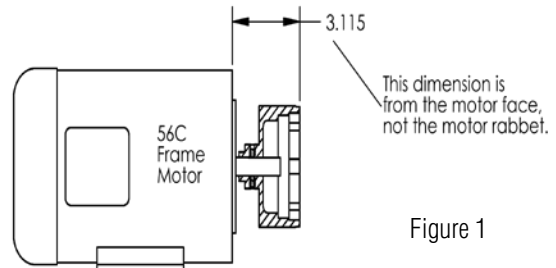

Figure 1
2. Slide drive magnet assembly (item 6) onto the motor shaft until it is between 3.110" and 3.120" as measured from the motor face to the top of the drive magnet assembly. See Figure 1. Align set screw (item 6B) with flat or key slot on the motor shaft and tighten both setscrews with a 5/32" Allen wrench to 70 in.-lbs. (7.9 N-m).